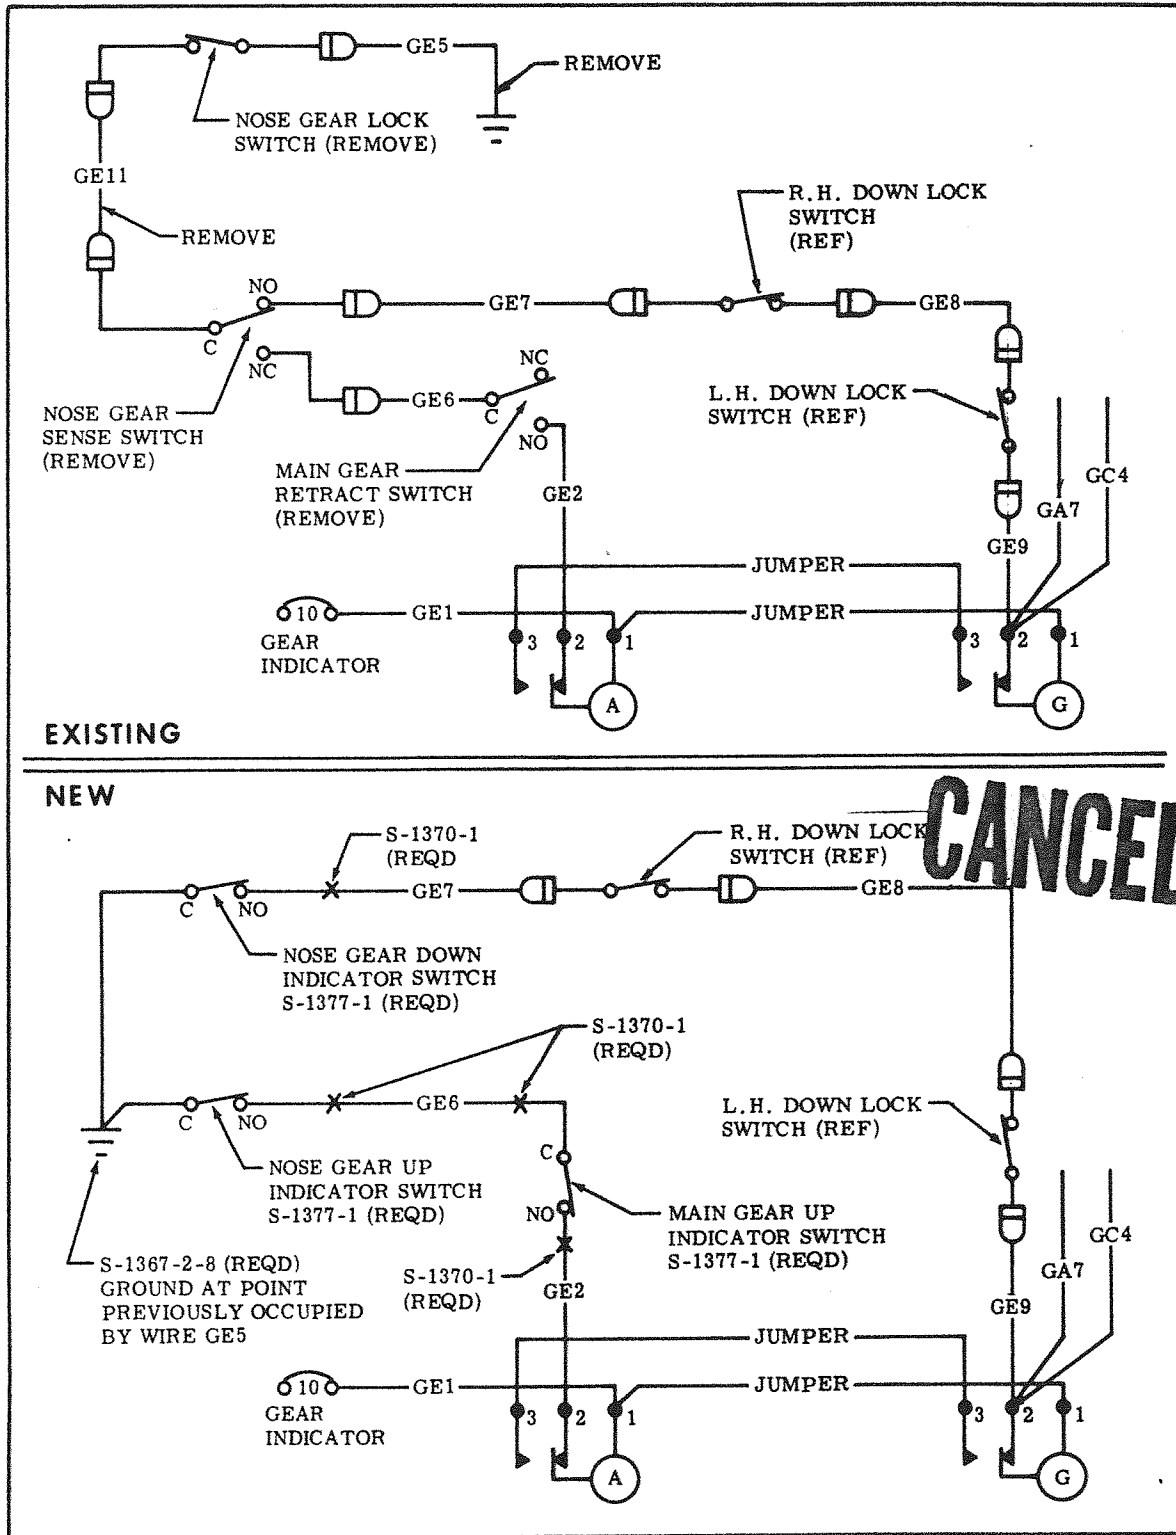

Figure 3. Landing Gear Position Indicator Circuit Diagrams
Clip the leads on the switch to about six inches, install sleeving to cover lead wires, install splice fittings (Reference figure 3) and rig the switch so the plunger is depressed .03 to .06 inches after the switch is actuated.
- (3) (Refer to figure 3.) Clip wires GE2 and GE6 attached to the switch previously removed and install splice fittings as shown.
- e. (Refer to figure 3.) Disconnect existing switch wires, make splices to connect the new switches in accordance with the schematic shown.